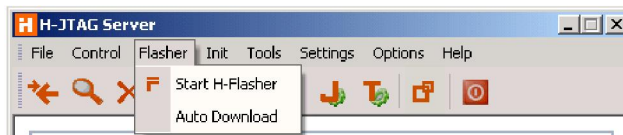

Fig 2-10 Flasher Menu
- Flasher menu, as shown in Fig 2-10.